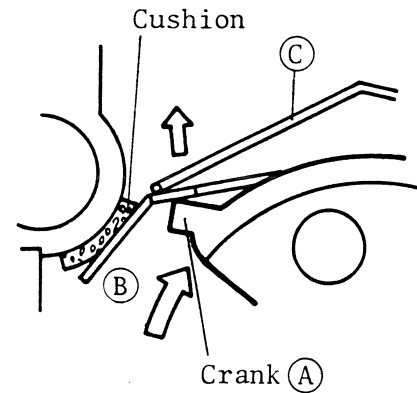

Fig.55
1. Check (Fig. 55)
- a. When winding the film winding lever slowly, the crank (A) pushes up the switch contact (B).